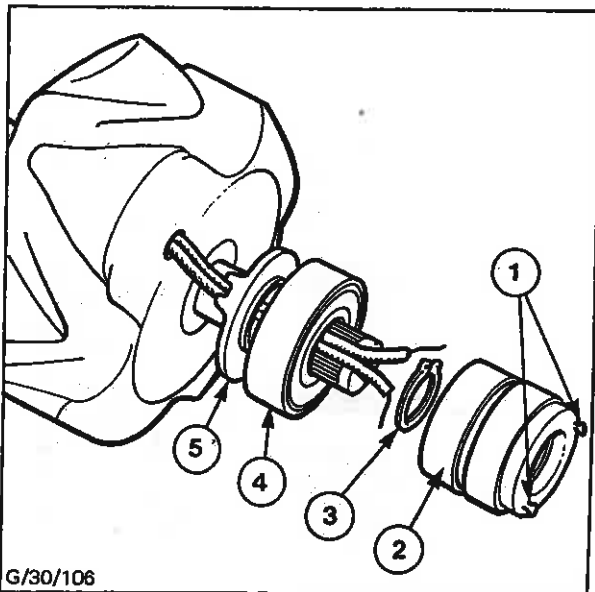
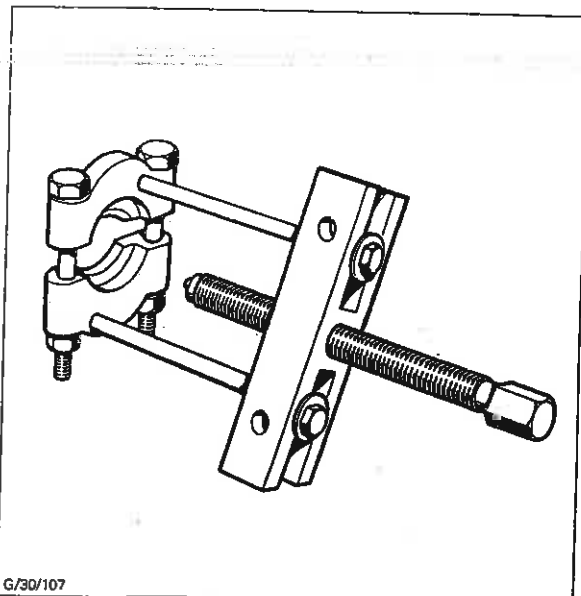

Fig. 67 - Removing Slip Rings and Bearing
Fig. 68 - 'Sykes' Type Extractor
1. Unsolder the ends of the field leads from the slip ring terminal posts (1) - see Fig. 67.
2. Using the extractor shown in Fig. 68, withdraw the slip ring assembly (2) - see Fig. 67. Removal of the slip ring assembly will render it unserviceable and a new one must be fitted.